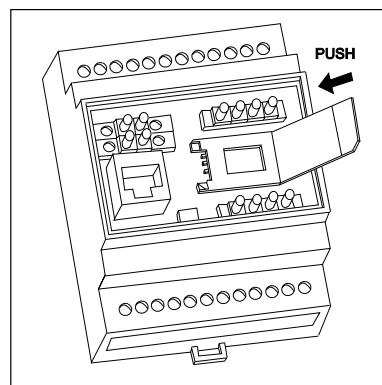

Figure 7.1.3
- Insert the SIM card into the holder so that the notches align (see the **figure 7.1.3**).